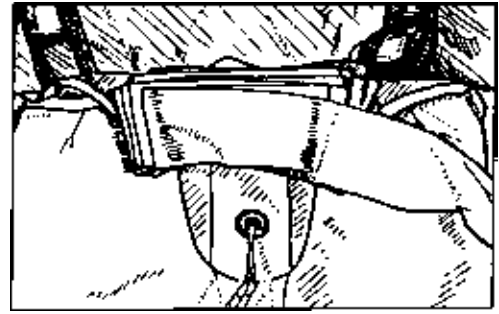

Figure 10
Step 22 Work the bottom corners of the bag into the bottom corners of the container to fill them out. Make the S folds approximately 3" (75 mm) long so that it fills the top of the Molar indent at the top of the bag. Place the inside top flap over the bridle. *Figure 10 & 11*